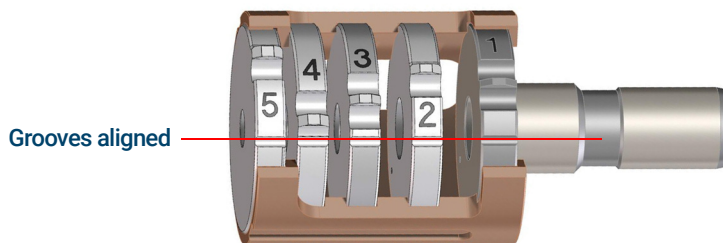

Figure 22. Assembled LE-EI ion source lens stack
- 1 Assemble the five lenses inside the lens insulator. (See **Figure 22**, “Assembled LE-EI ion source lens stack,” on page 92.) The lens number is engraved onto the outer circumference of each lens.